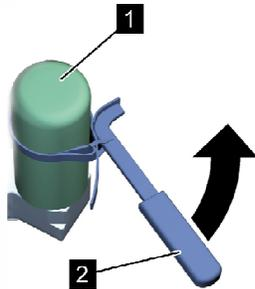

Fig. 31: Unfastening the air/oil separator
4. Use the strap wrench (Fig. 31/2) to unfasten and remove the air/oil separator (Fig. 31/1).
5. Remove old gasket remains from the air/oil separator (Fig. 31/1).